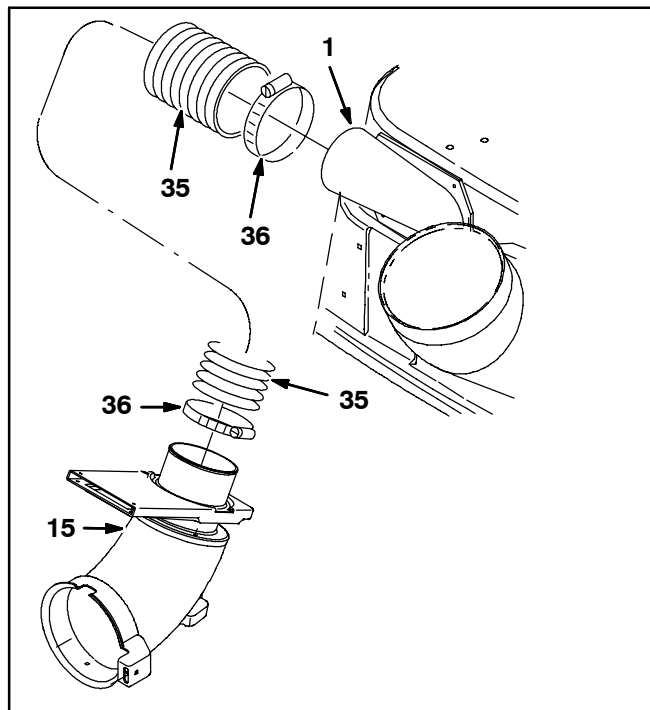

FIG. 10
13. Use a bridge clamp (36) to attach one end of the 15.8L vacuum hose (35) to the tube weldment (1). Refer to Fig. 10.
14. Use a bridge clamp (36) to attach the other end of the 15.8L vacuum hose (35) to the upper wand tube (15). Refer to Fig. 10.